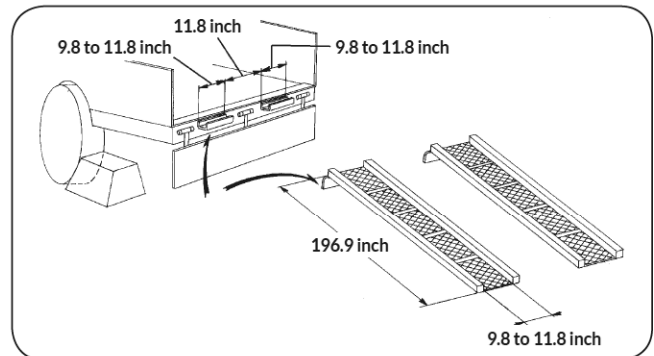

Figure 65
2. Use fixing plates to secure the ramp properly. Connect the ramps directly with the truck bed. (See Figure 65)